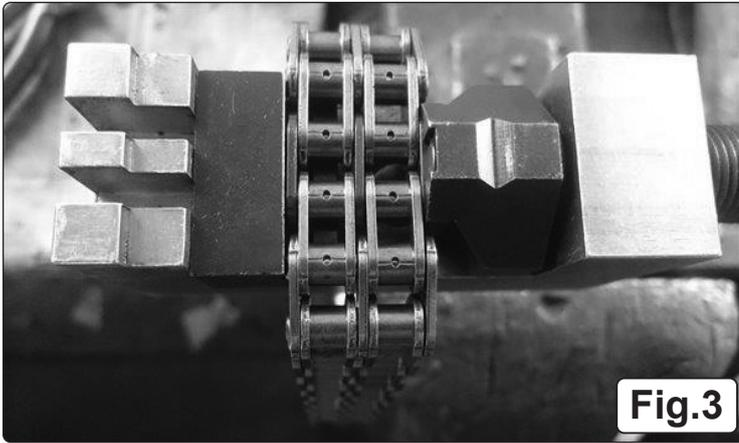

Fig.3
- 5.2.3. Using the VSE4802-V2-02 link assembly tool, the relevant chain guide block and also depending upon link pin, size either the VSE4802-V2-.03 or VSE4802-V2-14 magnetic Jaw press to press on the outer chain link plate by tightening the 13mm hex bolt, fig.3.